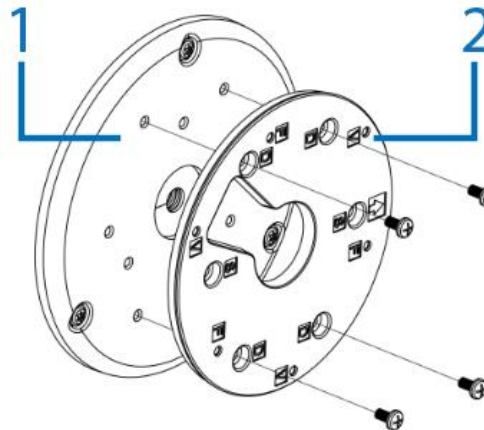

Figure 4
- Hold the Essentials adaptor plate (2) (Figure 4) up to the junction box adaptor plate (1) (Figure 4) and align the four holes on both plates.